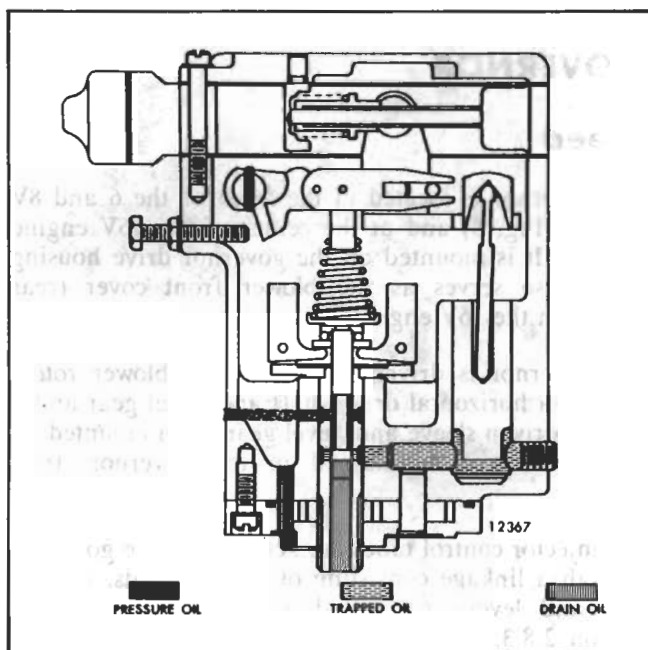

Fig. 2 - Position of Governor Mechanism when Load is Constant
12. Refer to Fig. 2 for the location of the stop lever return spring special screw. Then install the eight governor cover attaching screws and lock washers. Tighten the screws securely.
13. With the hooked end of the stop lever return spring in position on the lever, place the extending end of the spring behind the special cover attaching screw as shown in Fig. 2.
14. Attach the booster spring to the speed control lever (Fig. 2) and tighten the outer booster spring adjusting nut on the eyebolt.
The injector control tubes are actuated by the governor through a linkage consisting of the fuel rods, vertical link, and levers, connected as shown in Fig. 2 in Section 2.8.3.
the undercut portion of the pilot valve plunger and the bore in the ball head as shown in Fig. 2.
For any given throttle setting, the speeder spring has a definite compressional force which is opposed by the centrifugal force of the revolving flyweights. When the two forces are equal, the land on the pilot valve plunger covers the lower opening in the ball head, producing a constant speed condition as shown in Fig. 2.